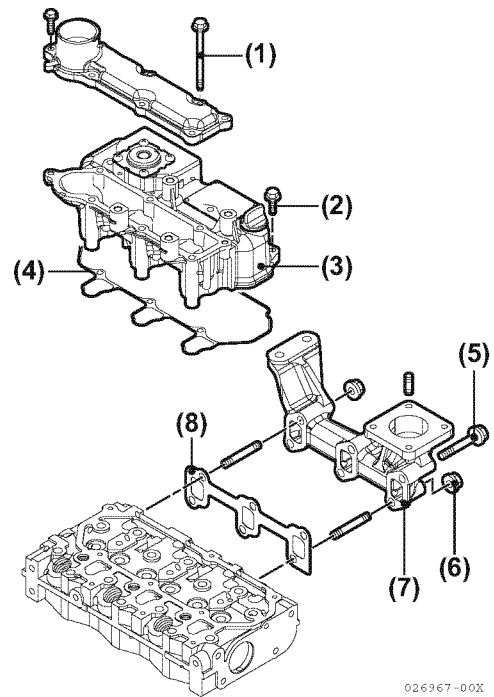

Figure 6-34
2. Lightly grease a new valve cover gasket (**Figure 6-34, (4)**). Place the gasket in the groove of the intake manifold / valve cover (**Figure 6-34, (3)**).
4. Reinstall and tighten bolts (**Figure 6-34, (1 and 2)**) securely.
5. Reinstall the exhaust manifold using a new gasket. Tighten the bolts and nuts (**Figure 6-34, (5 and 6)**) securely.